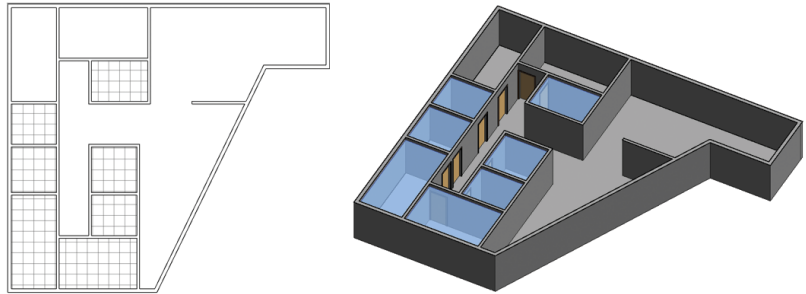

FIGURE 3.29 Resulting automatic placed ceilings
4. Select the Ceiling tool on the Architecture tab, and pick inside the rooms shown in Figure 3.29 to automatically place the ceilings. Notice that Revit Architecture centers the grid based on the space you've selected.